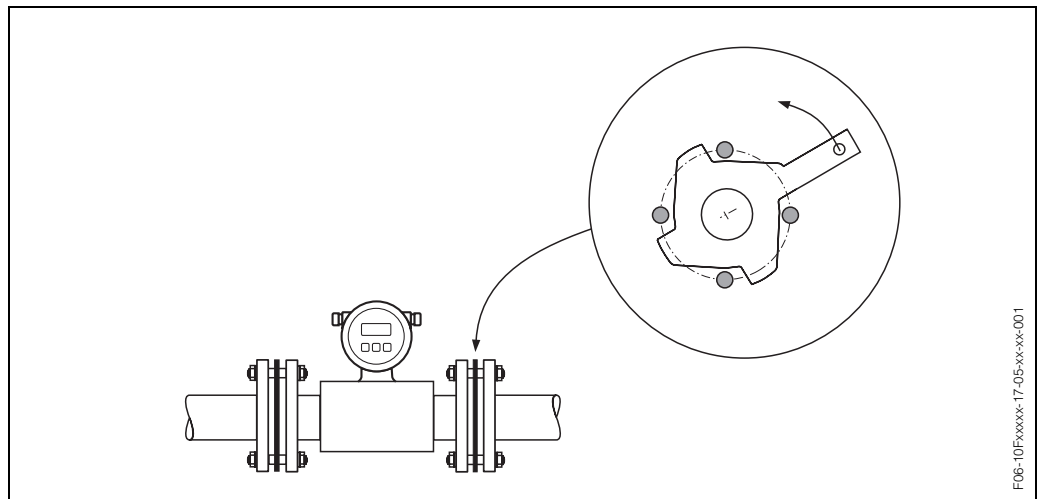

Fig. 17: Assembly ground disks (Promag W, DN 25...300)
1. Place the ground disk and additional seal(s) between the instrument and the pipe flange (see Fig. 17).
3. Now rotate the ground disk as shown in Fig. 17 until the handle strikes the bolts. This will centre the ground disk automatically.